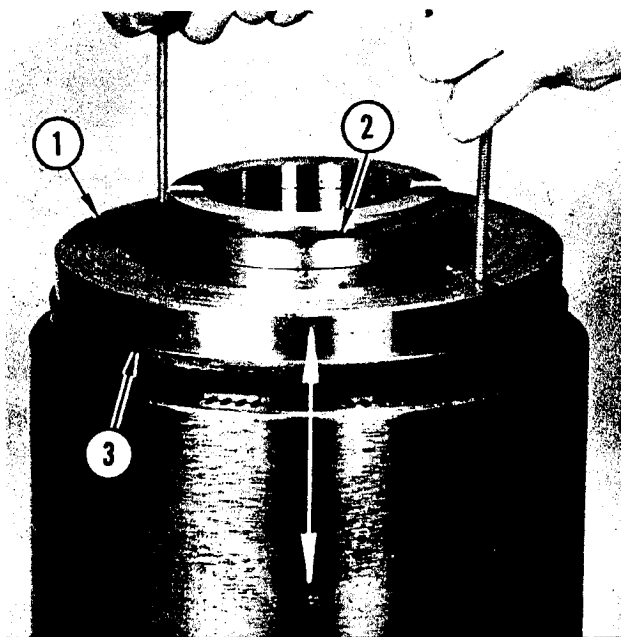

FIGURE 52. CLUTCH PISTON
Refer to Figure 52. Install two long bolts into tapped holes in piston. Remove piston (1) from piston housing. Remove piston ring (2) from groove in hub of piston. Remove seal ring (3) and ring expander from groove in piston. When installing piston, make certain that oil port in piston is aligned with hole in housing. See arrows.